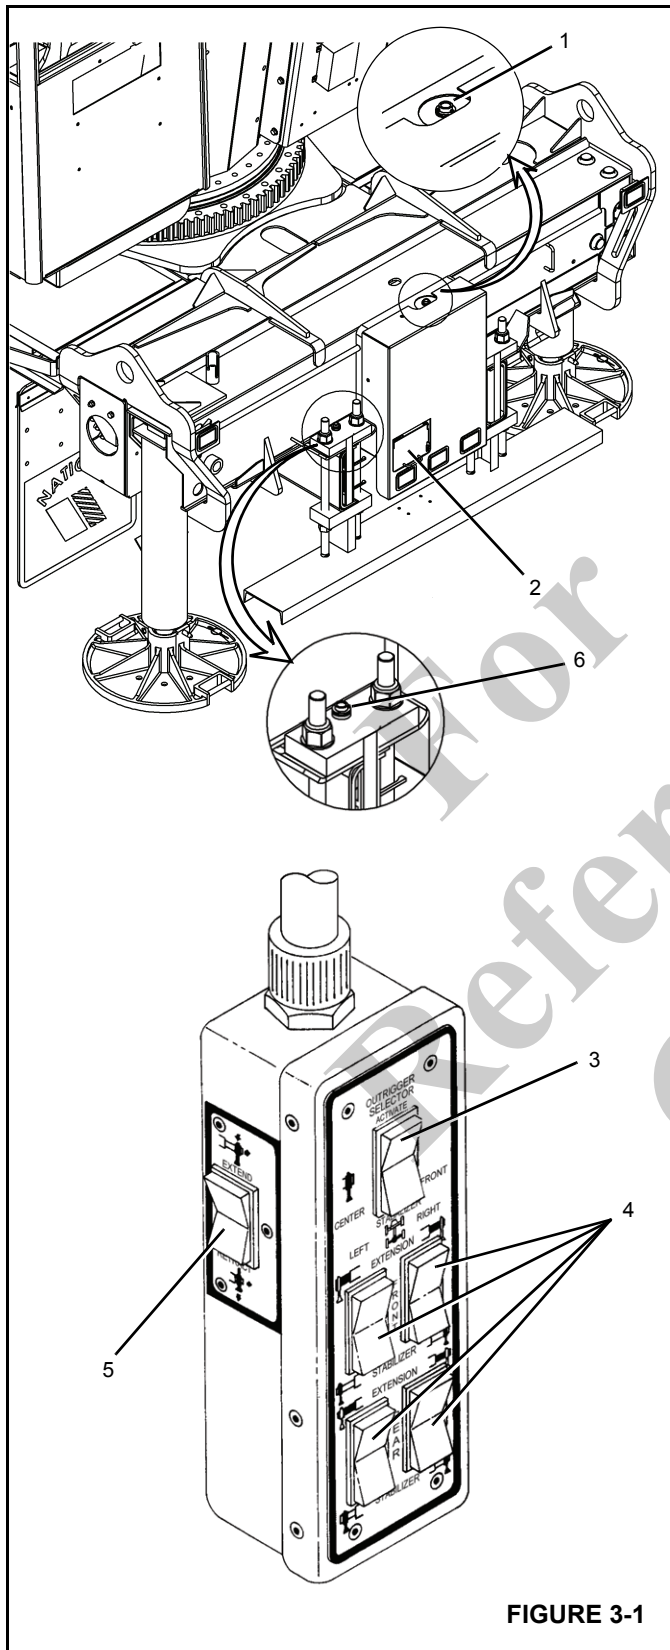

FIGURE 3-1
The handheld outrigger control box (Figure 3-1) is located in the stowage compartment at the back of the crane. The controls are electrically operated and include four outrigger selector switches, a extend/retract switch, and an optional front stabilizer switch. A remote engine throttle is located under the door of the crane cab for engine speed control when operating the outriggers.
The primary level indicator is located at the back of the crane at the top of the rear outrigger box (1) (Figure 3-1). The secondary level indicator is located on the back of the truck down on the T-box frame (6) (Figure 3-1).
The handheld outrigger control box is stowed in a stowage compartment at the rear of the crane (Figure 3-1) and is used to control the outriggers.